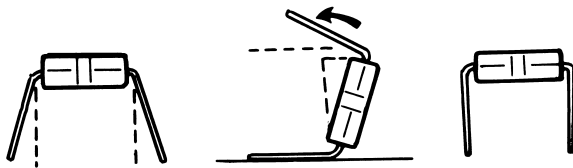

Figure 5. Rolling to Bend Pins
See Figure 5.
- ☐ Be sure the pins are at right angles with the body of the IC. If not, lay the IC down on one of its rows of pins, as shown in Figure 5, and roll it until the pins are at right angles. Repeat this process for the other row of pins.